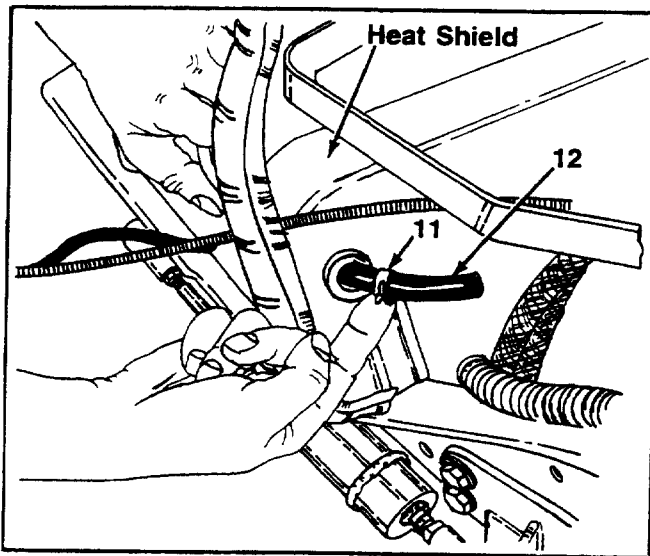

FIGURE 8.
10. Remove the fuel line clamp from fuel line, then pull the fuel line back through the heat shield. See figure 8.